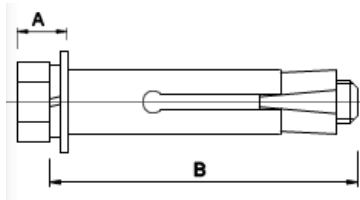

Figure 1
1. The installation needs to be equipped with M5 or M6 expansion bolts as shown in Figure 1 (this bolt needs to be purchased by the customer);